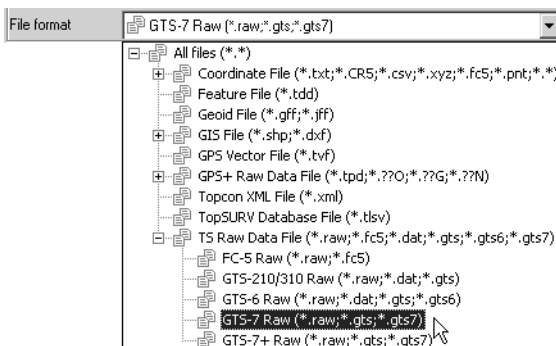

Figure 3-35. File Format List
- the File format (Figure 3-35).